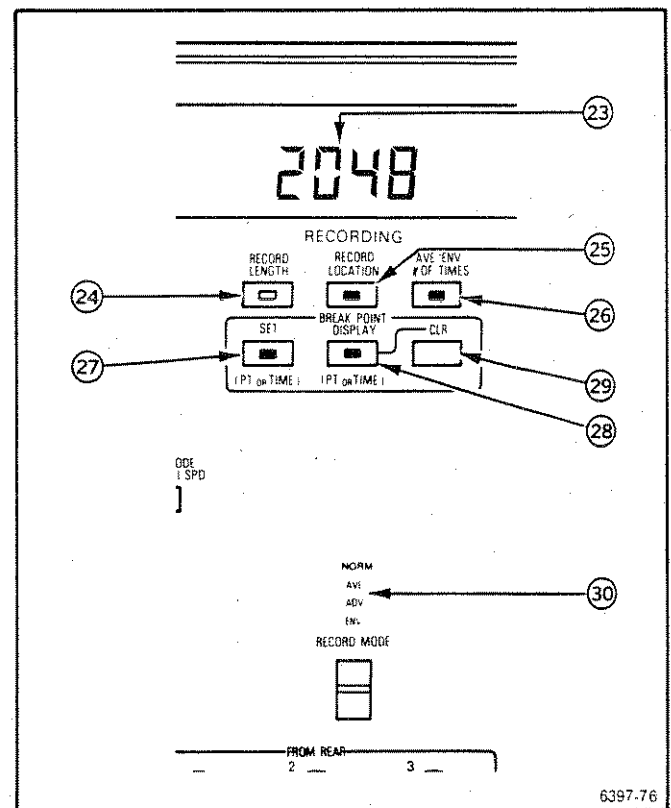

Fig. 3-6. Recording section of front panel.
Refer to Fig. 3-6 for location of items 23 through 30.